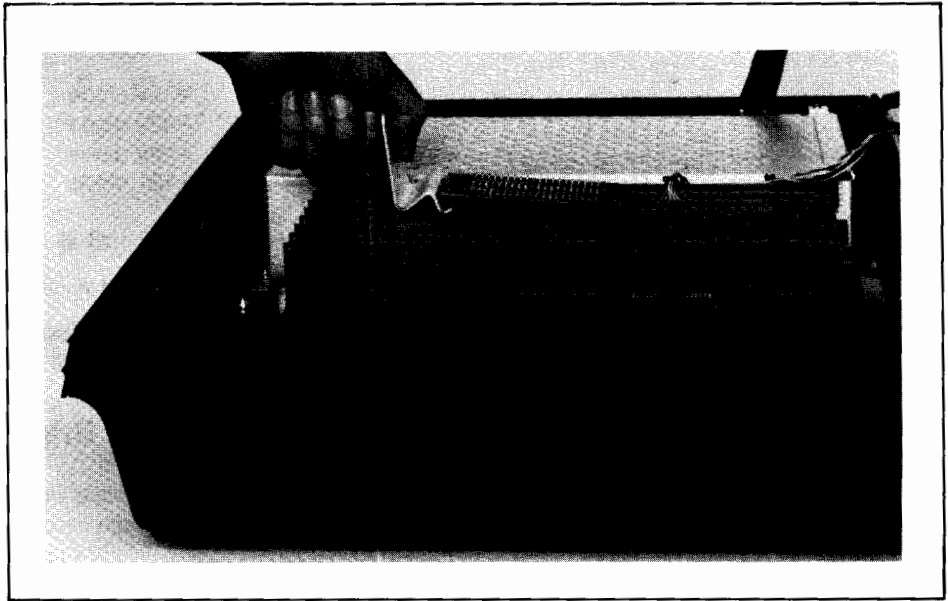

Figure 5-2. Top Plane Connector Removal
PROCEDURE	<ol style="list-style-type: none">1. Turn off terminal power and open the terminal.2. Remove the top connector from the Display Control, Display Memory Access, and Display Timing PCAs (figure 5-2).
2. Use the connector extractor to remove the top plane connector from the Display Control, Display Timing, and Display Memory Access (DMA) PCAs (figure 5-2).